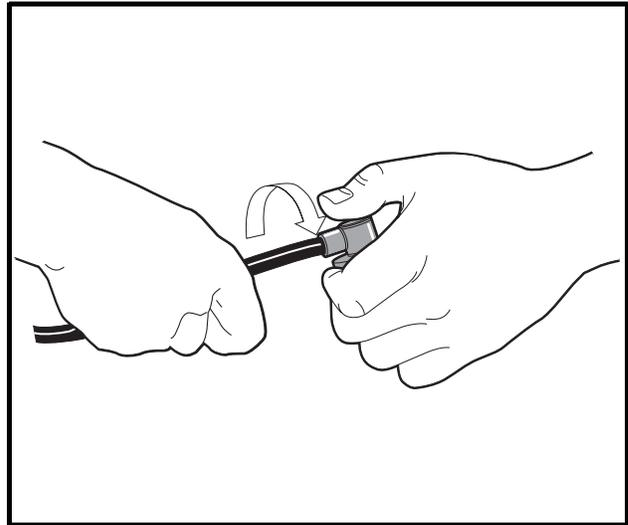

Figure 11-21 Spark Plug Cap Removal
- 4.2. Remove the cap from the wire by turning the cap counterclockwise three or four revolutions while gently pulling it off the wire (**Figure 11-21, Page 11-23**).
- 4.2. Remove the cap from the wire by turning the cap counterclockwise three or four revolutions while gently pulling it off the wire (Figure 11-21, Page 11-23).